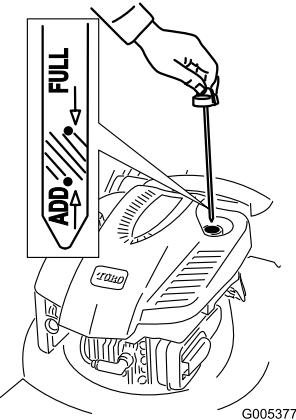

Figure 11
1. Remove the dipstick, wipe it clean, and fully install the dipstick (Figure 11).
2. Remove the dipstick and check the oil level (Figure 11). If the oil level is below the **Add** mark on the dipstick, slowly pour oil into the oil fill tube to raise the oil level to the **Full** mark on the dipstick. **Do not overfill.** (Max. fill: 0.59 l, type: SAE 30 detergent oil with an API service classification of SF, SG, SH, SJ, SL, or higher.)